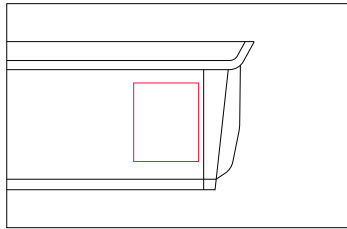

Figure 7
**NOTICE:** Please write down the serial number found on the battery beneath the barcode (fig. 7) on the inside front cover of this manual to facilitate failure reporting. Products that have the serial number and/or barcode removed, defaced, damaged, altered, or made illegible will not be covered by the warranty.